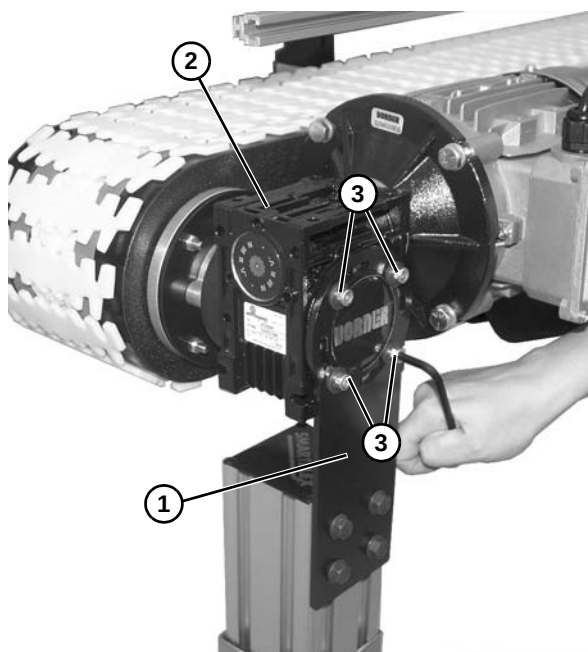

Figure 51
5. Install drive motor stand mounting bracket (**Figure 51, item 1**) onto the drive motor (**Figure 51, item 2**) with four washers and socket head screws (**Figure 51, item 3**).